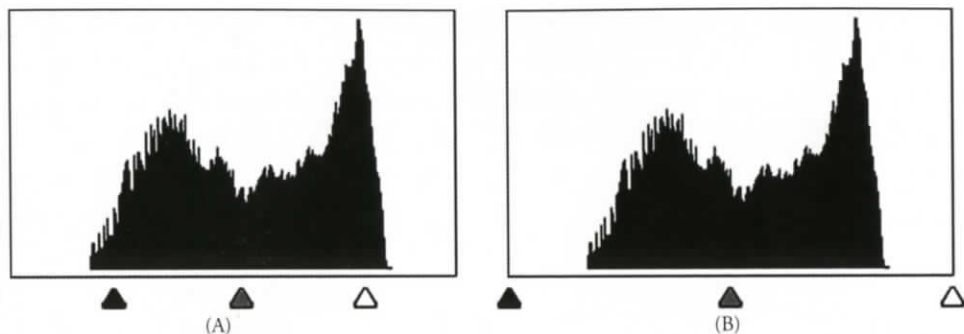

Figure 7-4 Scanner histogram. (A) The scanner software may try to adjust the histogram. (B) Adjust the histogram so that it scans the image in unaltered xxx.
4. If your scanner has an option to preview the histogram, take advantage of the feature. Often the scanner automatically will set the black and white points for your image in order to maximize the image contrast. If necessary, pull the black and white points for the histogram back out to prevent the scanner from adding any contrast (Figure 7-4).